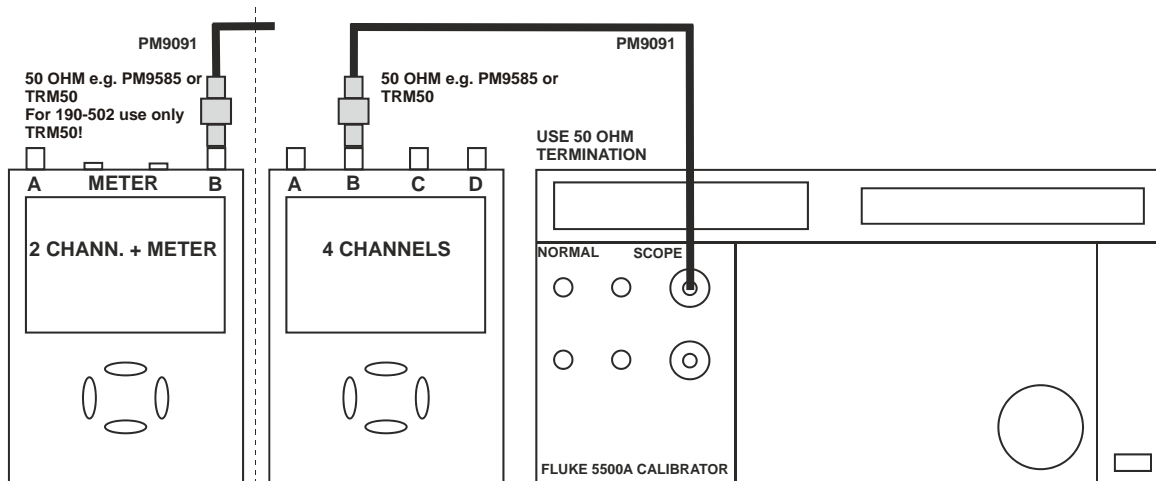

Figure 5-12. 5500A SCOPE Output to Test Tool Input B
2. Connect the Test Tool to the 5500A as shown in Figure 5-12.